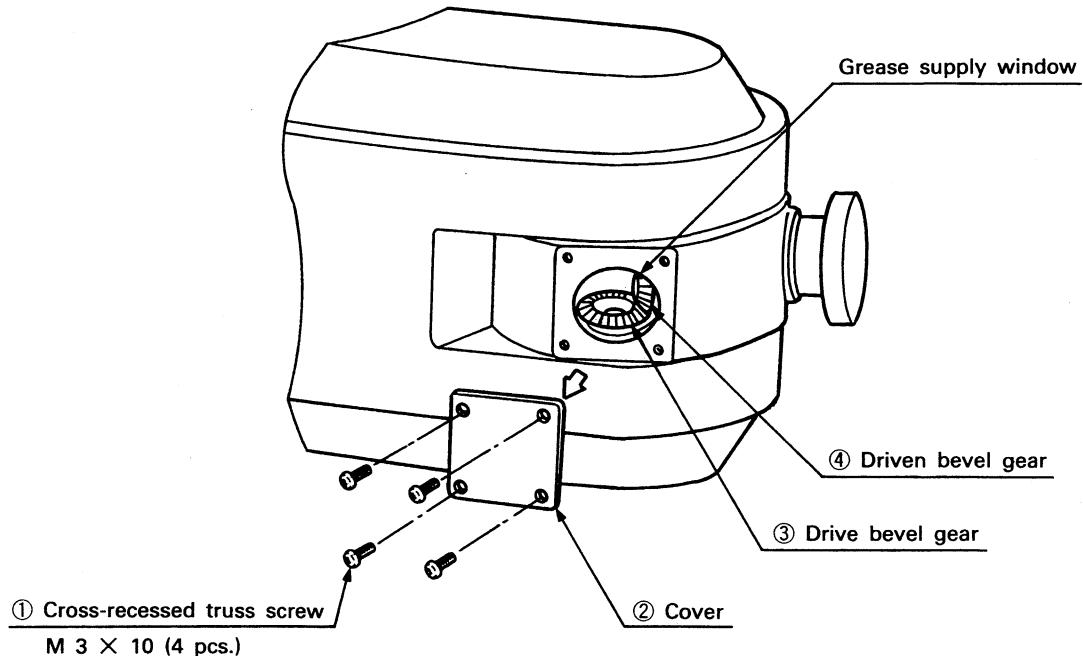

Fig. 4.3.11 Supplying Grease to the Wrist Roll (J5 Axis) Drive Gears
- (1) Fig. 4.3.11 gives the way of lubricating the wrist roll drive gears.
- (2) Loosen the four cover installation screws ① and remove the cover ②.
- (3) Put an appropriate amount of grease (Molyton grease No 2) on your finger or brush and directly apply to the bevel gears ③, ④ through the grease supply window.
- (4) Reinstall the cover ② and securely tighten the installation screws to the cover.